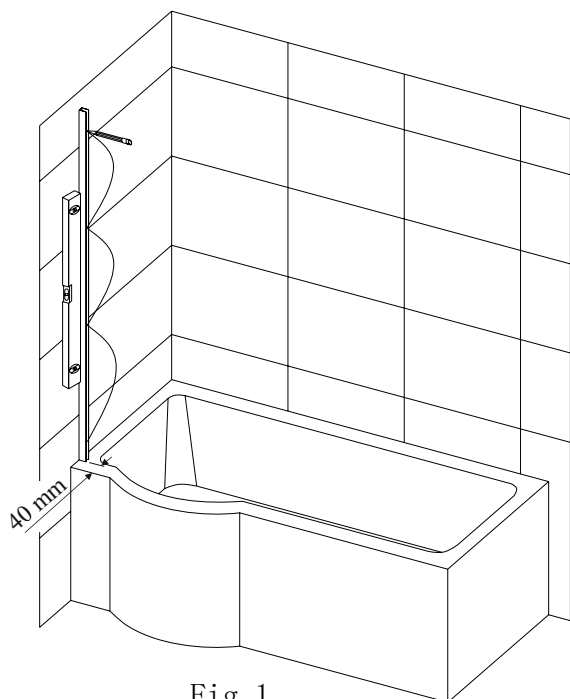

Fig. 1
- 1) Put the wall profiles on the walls , keep the distance between profiles and bathtub edge 40 mm , adjusting the profiles to make sure it is vertical .Mark the holes on the wall . As Fig.1